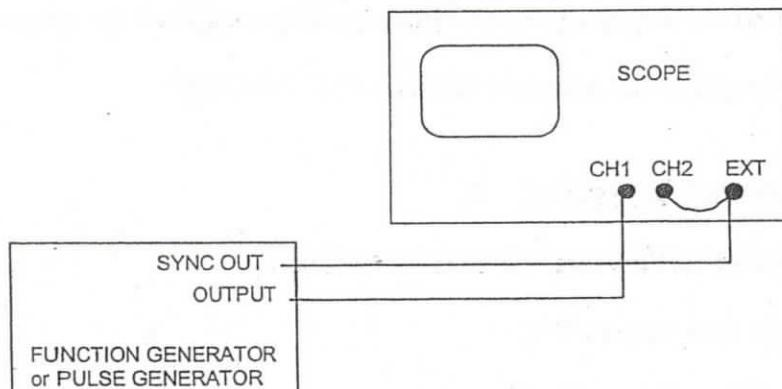

Figure 2-4
- Connect the function generator to the oscilloscope as shown in Figure 2-4.